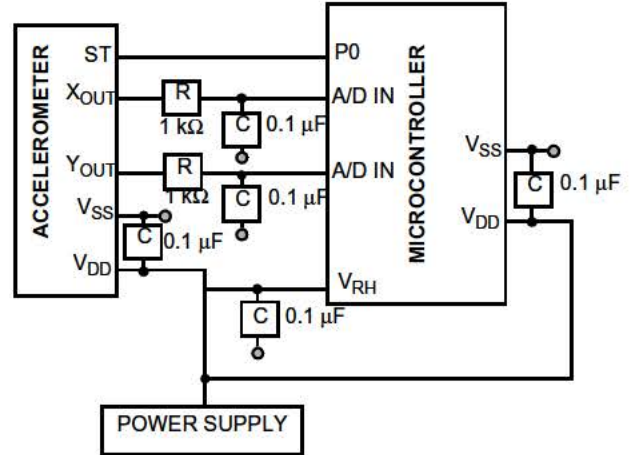

Figure 5. Recommend PCB Layout for Interfacing Accelerometer to Microcontroller
4. Place a ground plane beneath the accelerometer to reduce noise, the ground plane should be attached to all of the open ended terminals shown in Figure 5.